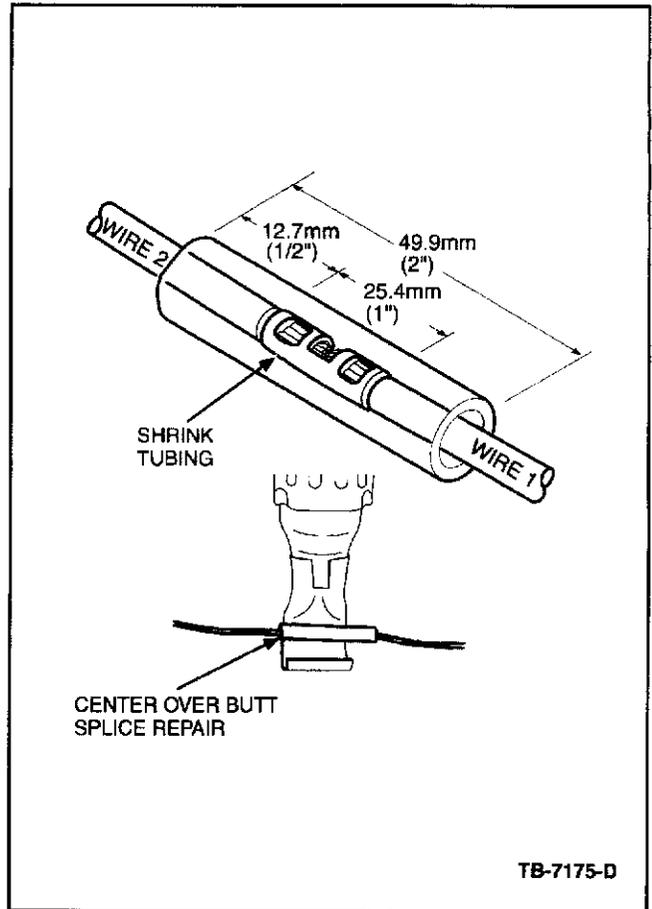

Figure 5 - Article 05-18-7
4. Evenly position heat shrink tubing over wire repair (Figure 5).
5. Use a shielded heat gun to heat the entire length of the heat shrink tubing until the hot melt appears from both ends of the tubing. Durability of a heat shrink tubing splice is dependent on the hot melt that will appear from both ends of the tube. The hot melt forms an adhesive seal between the wire insulation and the heat shrink tubing, which prevents air and moisture from entering the solder point (Figure 5).
10. Evenly position heat shrink tubing over wire repair (Figure 5).
11. Use a shielded heat gun to heat the entire length of the heat shrink tubing until the hot melt appears from both ends of the tubing. Durability of a heat shrink tubing splice is dependent on the hot melt that will appear from both ends of the tube. The hot melt forms an adhesive seal between the wire insulation and the heat shrink tubing, which prevents air and moisture from entering the solder point (Figure 5).